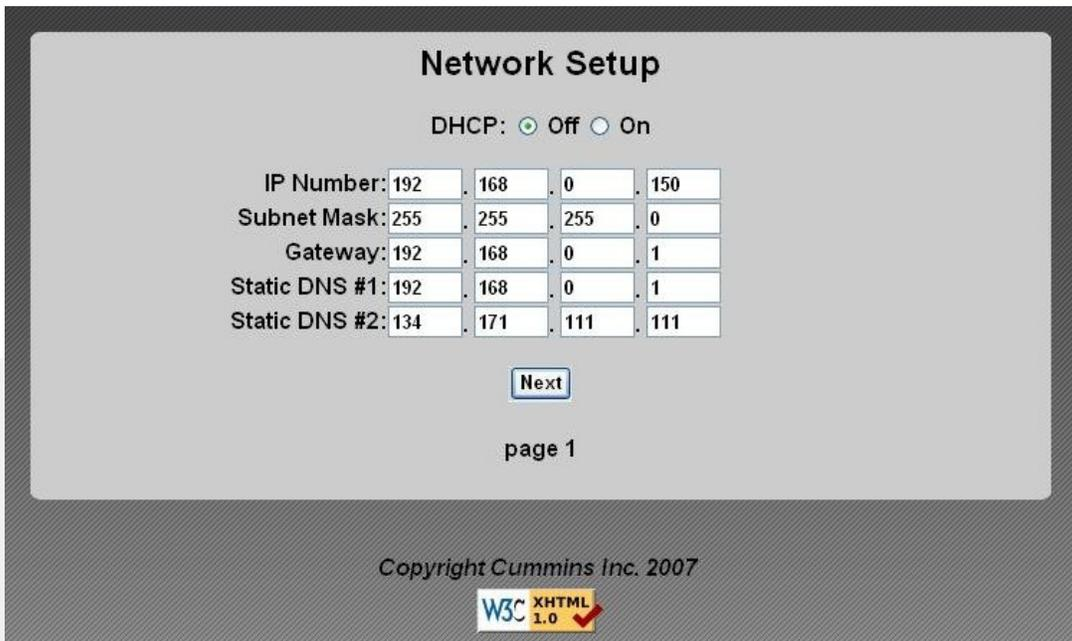

FIGURE D-2. NETWORK SETUP – PAGE 1
8. Verify with your ISP that the Static DNS (Domain Name Server) #1 and #2 are correct (see Figure D-2).